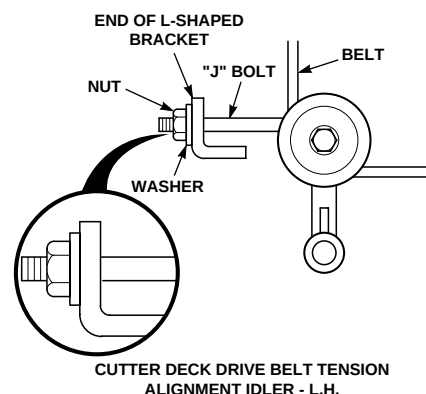

Figure 1. Deck Drive Belt Adjustment
- Adjust the cutter deck drive belt using a belt tension gauge. Adjust the belt so that the belt moves 1/2" with 10 pounds of pressure. Adjust the tension by tightening or loosening the J-bolt nut. (See figure 1).